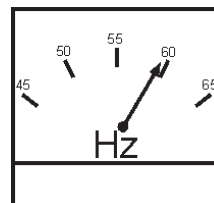

Figure 54. Frequency Meter (Hz)
11. The generator's frequency meter (Figure 54) should be displaying the 60 cycle output frequency in **HERTZ**.